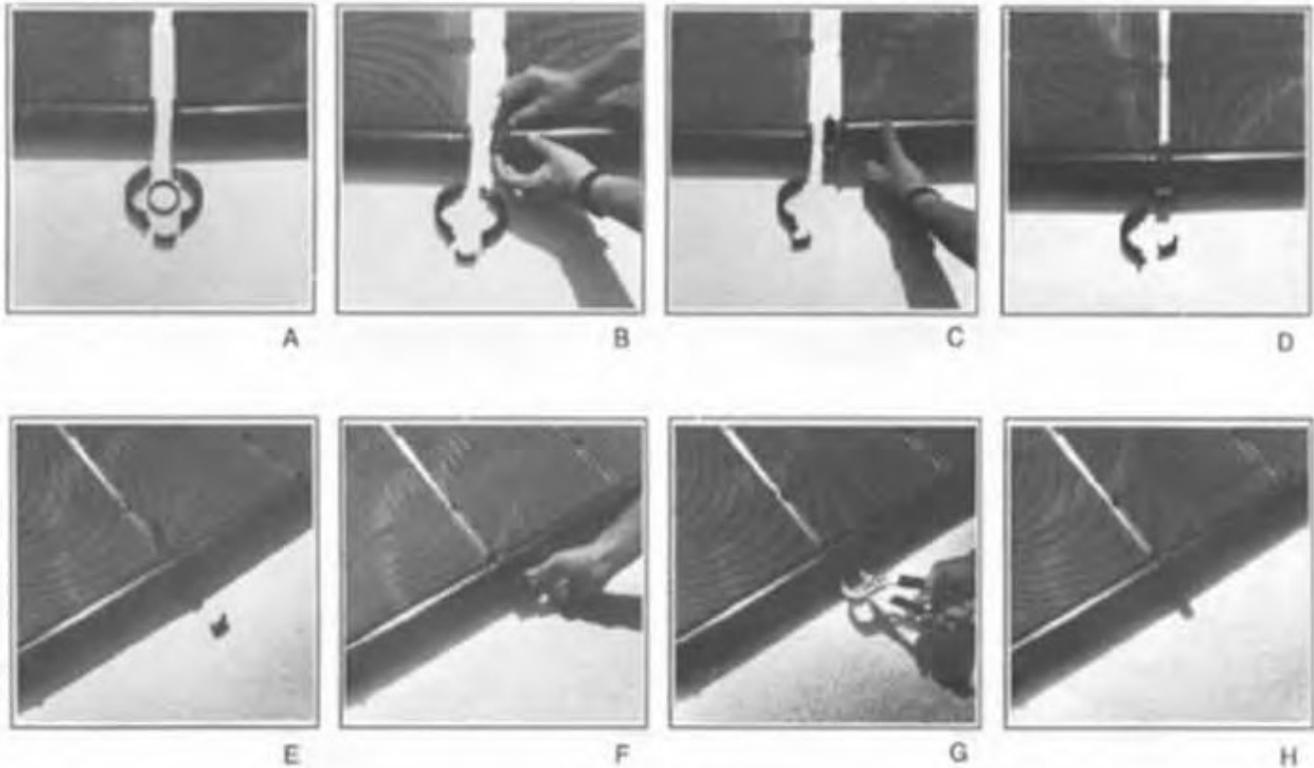

Fig. 7.1
1. Place two collectors next to each other. The spacer bars that hold the individual riser tubes together should be facing down. Lay a plastic panel clamp (113) top, bottom, gasket and clip where the two headers meet. (Fig. 7.1-A)
3. Spray the gasket with silicone and insert it into the groove of one of the headers. Make sure that the gasket is fully seated into the header groove by pushing firmly with your thumb all the way around the gasket. (Fig 7.1-B)
4. Place the bottom half (see Fig. 7.1) of the plastic panel clamp (113) under the collector header with the hook portion of the panel clamp on the inside of the collectors. (Fig. 7.1-C)
5. Seat both headers together by inserting the gasket into the opposite header groove and placing the ends of both headers into the open space in the panel clamp bottom. (Fig. 7.1-D)
6. Interlock the top half of the panel clamp with the hook on the bottom half. Swing top half over top of collector headers. Squeeze the top and bottom portions of the panel clamp together using channel lock pliers and lock both halves of the clamp together using the locking clip. (NOTE: Slide large end of locking clip over small end of plastic panel clamp assembly) (Fig. 7.1 - E & F)
7. Use channel lock pliers to tighten the clip grip by squeezing it with reasonable force until it seats flush or even slightly farther so it cannot slide out of its position. (Fig. 7.1-G)